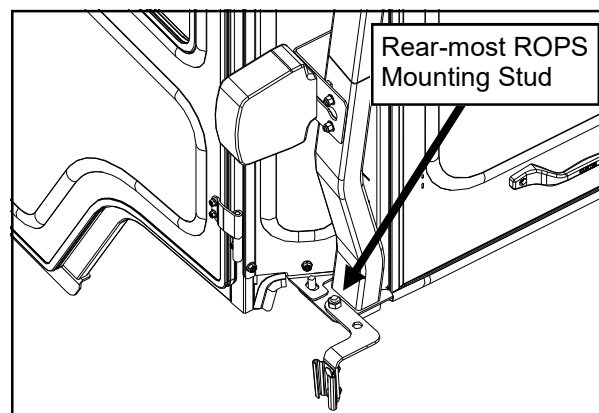

Fig. 18.3 (SMV Sign Bracket - Installed)
18.3 Remove the OEM nut and washer from the rear-most ROPS mounting stud on the left hand side of the vehicle. Reinstall the SMV sign bracket onto this stud, as shown in Fig. 18.3. Retighten nut to 50 ft-lbs.